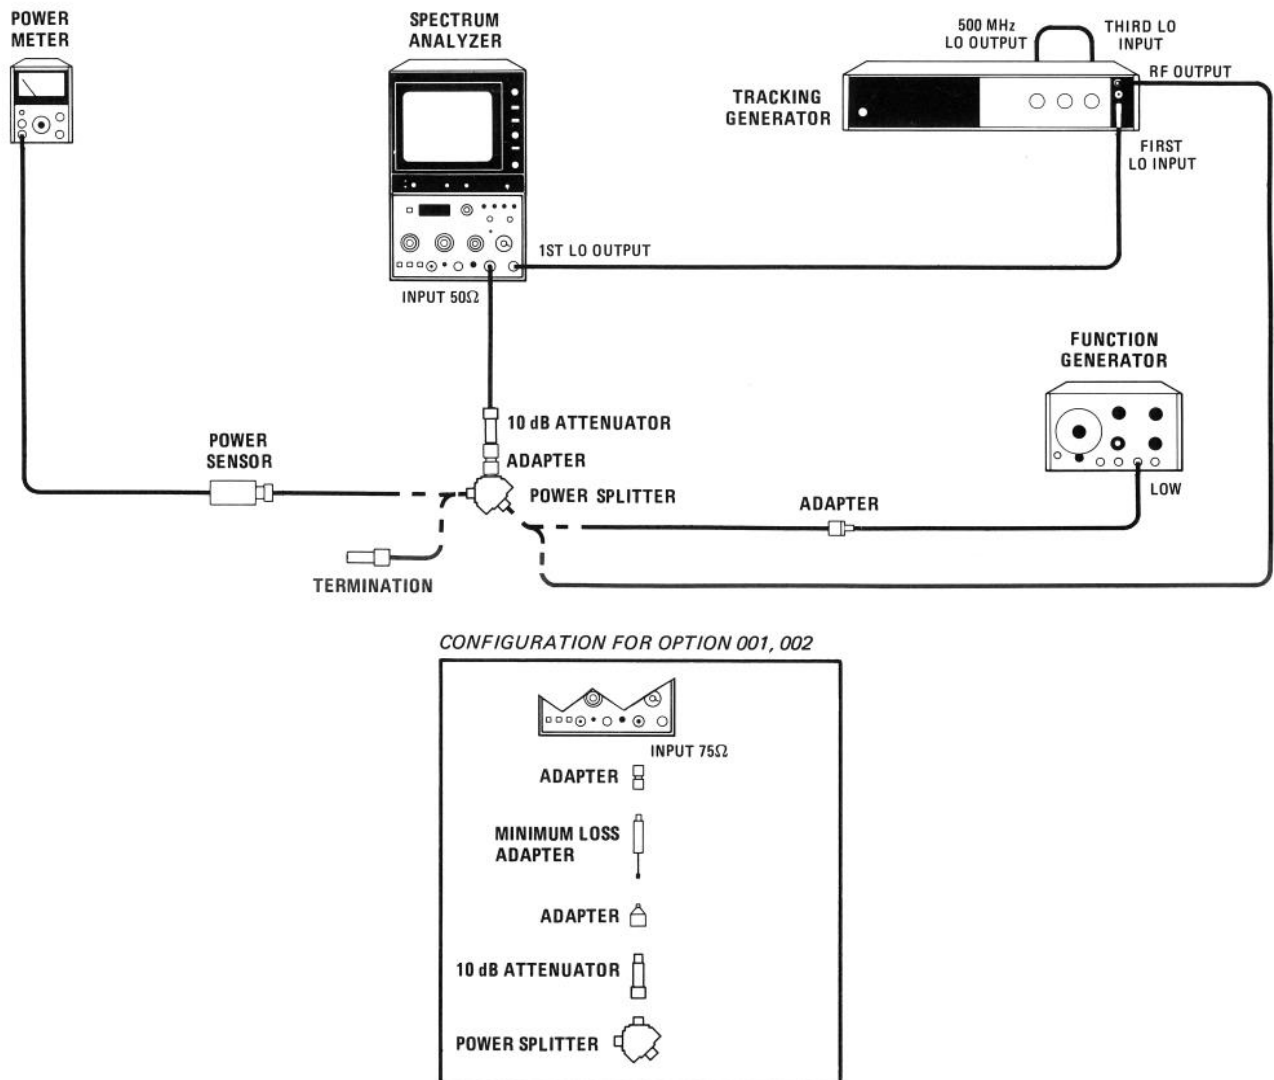

FIGURE 4-16. FREQUENCY RESPONSE TEST SETUP
3. Adjust TUNING for a FREQUENCY MHz reading of 5.0 MHz. Press FREQUENCY CAL. Set up equipment as shown in Figure 4-16. Connect the tracking generator 500 MHz LO OUTPUT to the THIRD LO INPUT (rear panel).